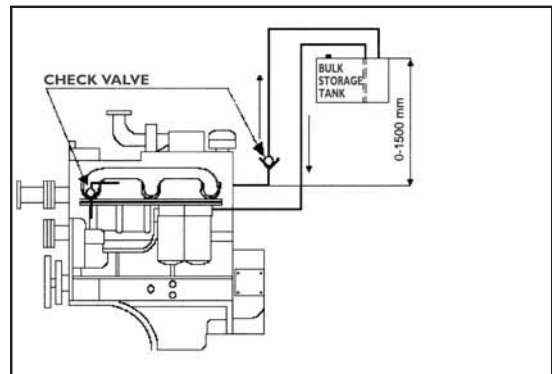
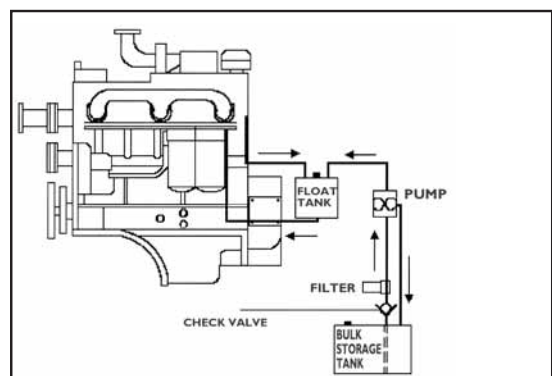

Figure 4.8 Fuel tank which is put 1500 mm above the fuel conversion
Figure 4.10 Fuel tank which is put below 1500 mm
- ! If the fuel tank is set 1.5 meters above injectors, two check valves must be connected like in Figure 4.8 in order to prevent the engine from hydraulic lock. The protection capacity of these valves is 0 to 1.5 meters in elevation. If fuel tank will be mounted at an elevation and at a distance, Figure 4.10 shows a tank mounted below the engine level and at a distance.